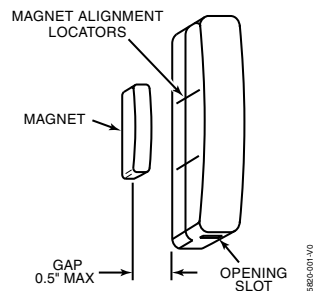

Figure 1. 5820L (Typical Installation Arrangement)
The description that follows assumes that the transmitter will be mounted as shown in Figure 1, with the magnet located adjacent to the unit's left side. The transmitter may, however, be installed in *any* direction, as long as the relationship of the unit to the magnet is maintained as shown in Figure 1.
2. If the *Go/No Go* test was successful, **remove the transmitter's cover** by inserting the flat blade of a small screwdriver into the opening slot at one end of the unit as shown in Figure 1, and separating the two halves.
6. **Mount** the magnet (supplied) adjacent to the two vertical positioning lines on the case side (see Figure 1). The gap can be one-half an inch maximum.